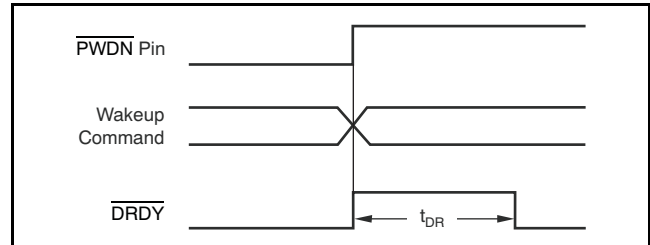

Figure 41.  $\overline{\text{PWN}}$  Pin and Wake-Up Command Timing (Table 13 shows  $t_{\text{DR}}$ )
In power-down, note that the device outputs remain active and the device inputs must not float. When the Standby command is sent, the SPI port and the configuration registers are kept active. Figure 41 and Table 13 show the timing.
(1) See Figure 41 and Table 13 for time to new data.